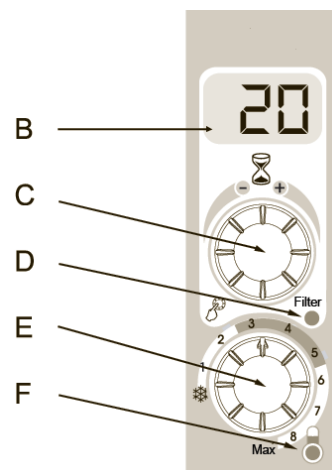

Fig.5
2. Turn the thermostat dial (**E**) (see **Fig.5**) clockwise to the maximum setting, the neon indicator (**F**) will light to show the front panel is starting to heat